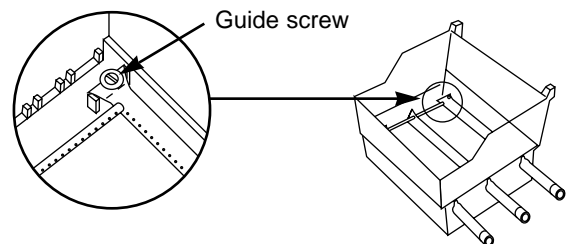

Figure 12
- Slide the burner assembly out from under the guide screw and washer in the corners of the cooking box. Figure 12.